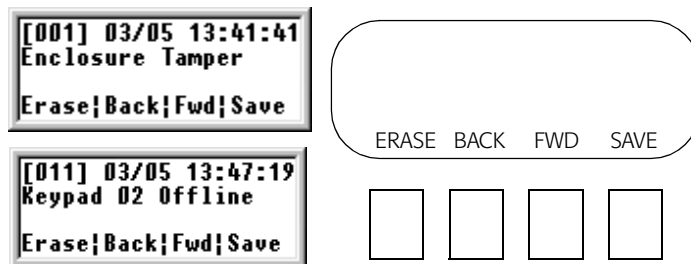

Figure 13: Alarm Log Menu
- If you press the ALM LOG button, a screen like Figure 13 appears: